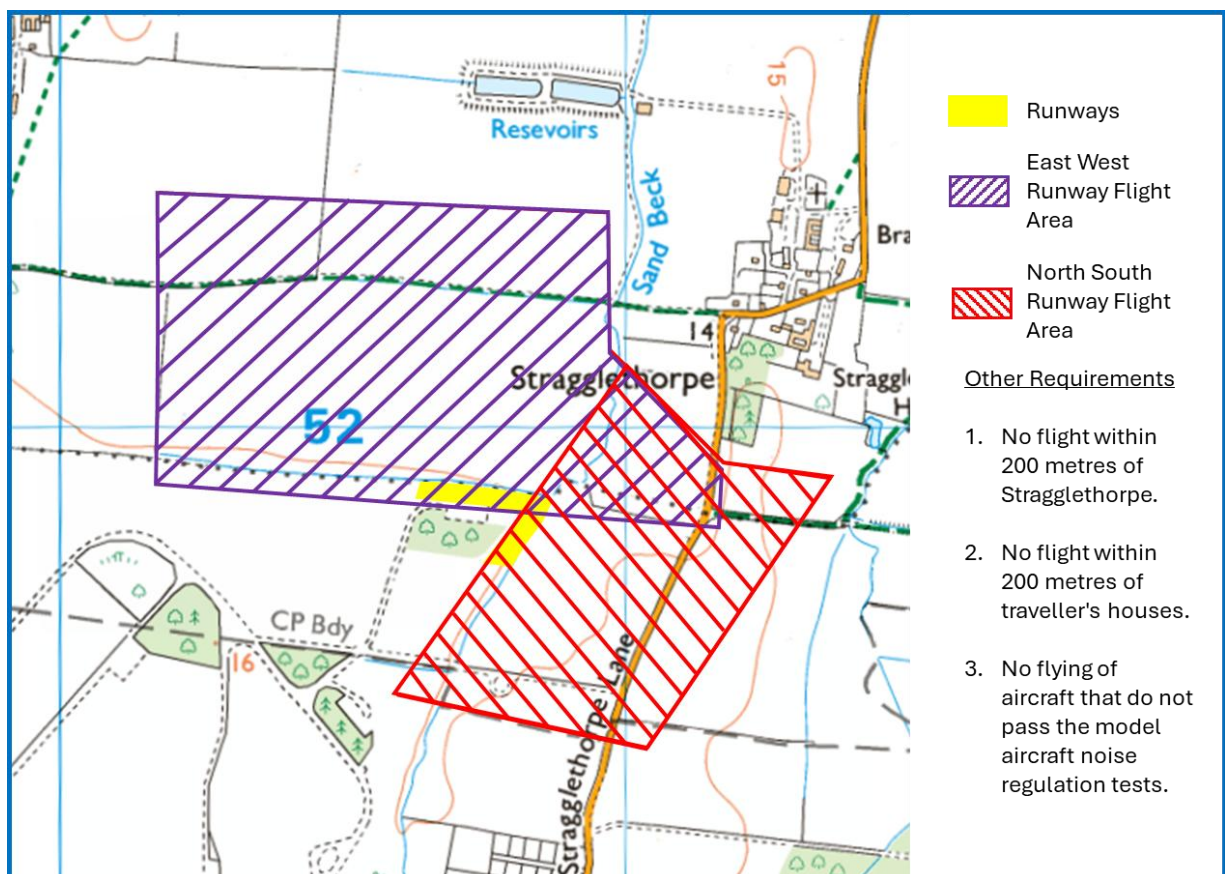

Figure 2 - Approved Flight Areas
- 18) Permitted flying areas are shown below in Figure 2, and dependent on which runway is in use. Please liaise with other flying disciplines to accommodate all users' requirements. Safety is paramount.